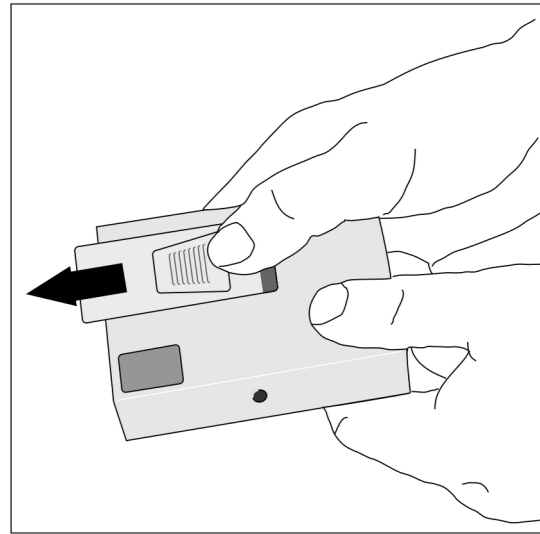

Fig. 3-1 Opening the battery compartment
- Hold TONOPORT V as shown in Fig. 3-1 and slide the lid of the battery compartment open (approx. 1cm).